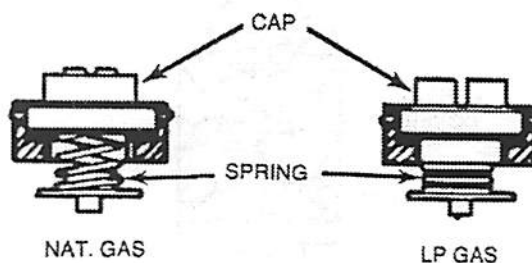

FIGURE 10
2. Remove the cap with the screwdriver slot (fig. 10) and turn it upside down. This cap will have the marking "LPG10" shown. Be sure not to disturb or remove the spring beneath this cap. Insert the cap in the body of the regulator and tighten.